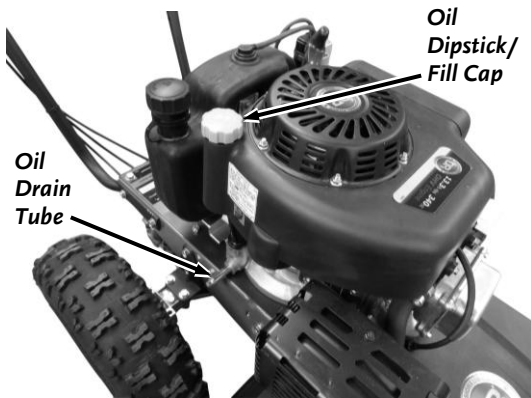

Figure 19
1. Remove the Oil Filler Cap and position a suitable oil drain container under the machine near the Oil Drain Tube (**Figure 19**).